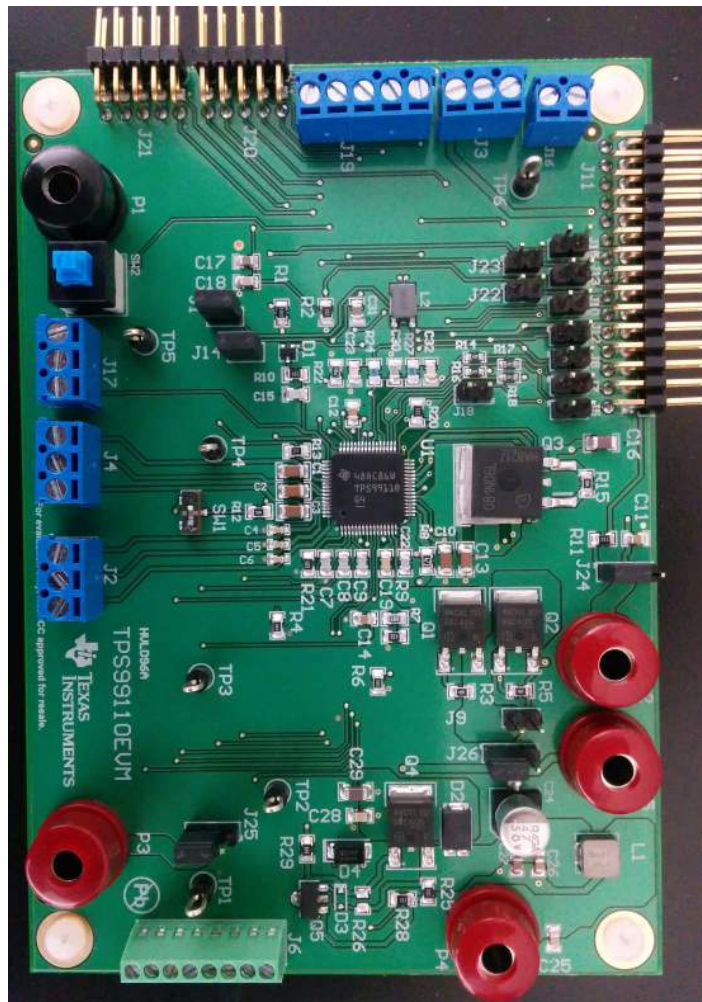

Figure 1. TPS99110EVM Board
The TPS99110EVM is used to evaluate the TPS99110-Q1 device. The EVM board already includes a TPS99110-Q1 device which eliminates the need for immediate soldering. Refer to the TPS99110-Q1 datasheet and Section 4 for more detail on the application configuration. The following function blocks are accessible on the EVM hardware and are highlighted in Figure 1.
- Step 3. Position SW1 in the correct location if it is not already in the correct position. To ensure that SW1 is positioned correctly, verify that it is switched to the 1-2 position (as shown in Figure 1).